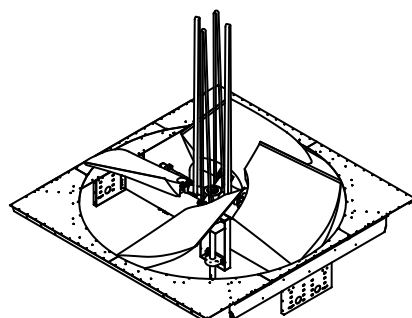

Figure 27. Fan Positioning
5. Position the fan over the top of the keyed fan shaft (**Figure 27**).